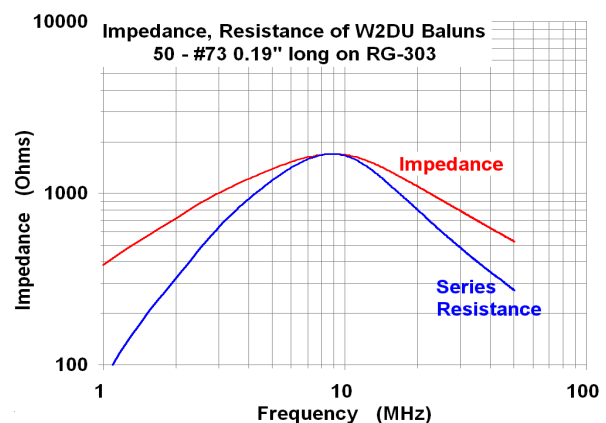

Fig 35 – A W2DU Balun (Measured Data)
- ♦ **Lossy Ferrite Choke Balun** Maxwell introduced the concept of passing a coaxial line through a string of lossy ferrite cores to form a common mode choke, a design which has come to be known as the W2DU balun. Maxwell's design consists of 50 Fair-Rite 2673002402 beads, 0.19" long and just big enough to fit over RG-303 coax (Fig 35). One of his experimental models used 300 beads, and measured $4500 + j3800$ ohms at 4 MHz. Notice that his choke is resonant at about 8.5 MHz because that is where his #73 beads are resonant. A W2DU balun will be most effective on 40M, 30M, and 20M.
- ♦ 1) We are stuck with the resonant frequency of the bead used in the string. If the bead is inductive, the choke will be inductive, and nearly all commonly available beads are inductive in the HF spectrum. The exception is Fair-Rite #73 (see Fig 35), and the largest cable that fits through the largest #73 bead is RG-303.
- ♦ 2) As Figs 35 and 36 show, it takes a very large number of beads to achieve even modest choking impedance. The usual compromise is using too few beads, which results in insufficient choking impedance. The resulting common mode current can overheat the balun, often to the point of failure, and couple RX noise.